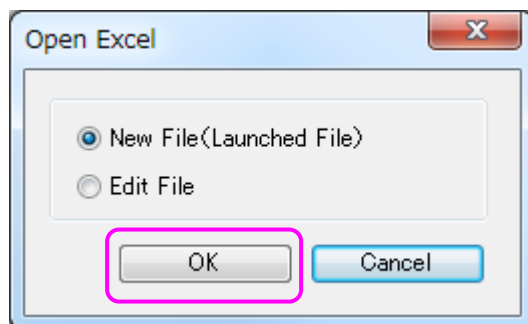

Fig.3-28
(3) Choose [New File(Launched File)] or [Edit File], and click [OK]. (Fig.3-28)